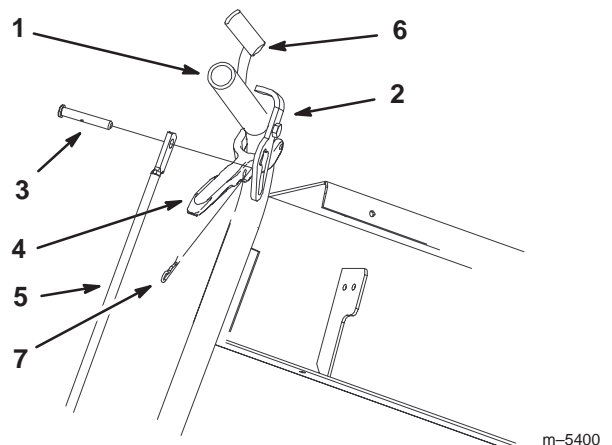
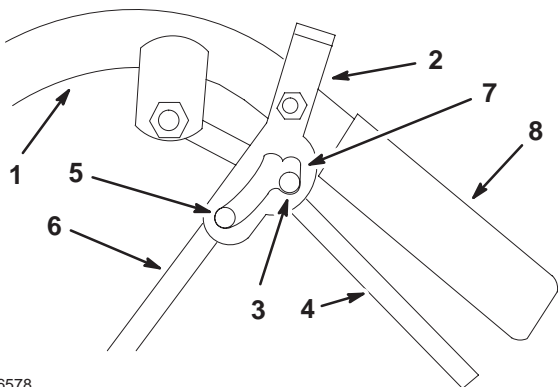

Figure 51
Figure 52
4. Place the left neutral lock in the full forward position (Fig. 52) and move the speed control lever to the neutral position (Fig. 42).
2. Place the right drive lever in the full forward position (Fig. 52).
5. Squeeze one drive lever until an **increased** resistance is felt (Fig. 52). **This is neutral position.** This is where the clevis pin in the yoke comes to the back end of the slot in the control arm bracket.
Note: Make sure you have not reached the end of the neutral lock slot (Fig. 52). If you have, shorten the control rod. Refer to Adjusting the Control Rod on page 39.
10. Release the drive lever to the forward drive position and squeeze back into the neutral position (Fig. 52). Check to see if the wheel stops. If not, repeat steps 8 and 9.
1. Adjust the rod length by releasing the drive lever and removing the hairpin cotter pin and clevis pin (Fig. 51). Rotate the rod in the rod fitting (Fig. 52).
4. Place the clevis pin in to the drive lever (Fig. 51).
6. Install hairpin cotter between drive levers and neutral locks and into clevis pins (Fig. 51).